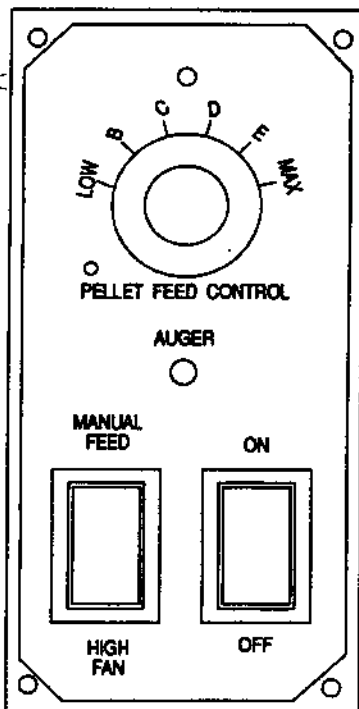

Figure 10
- Fill burn pot by hand or by pressing "MANUAL FEED" switch on control panel (see figure 10). Fill to level just below top air holes. Add approved fire starter (see section 3.92 j), light and close door. Keep door tightly closed during operation.
(see figure 10)